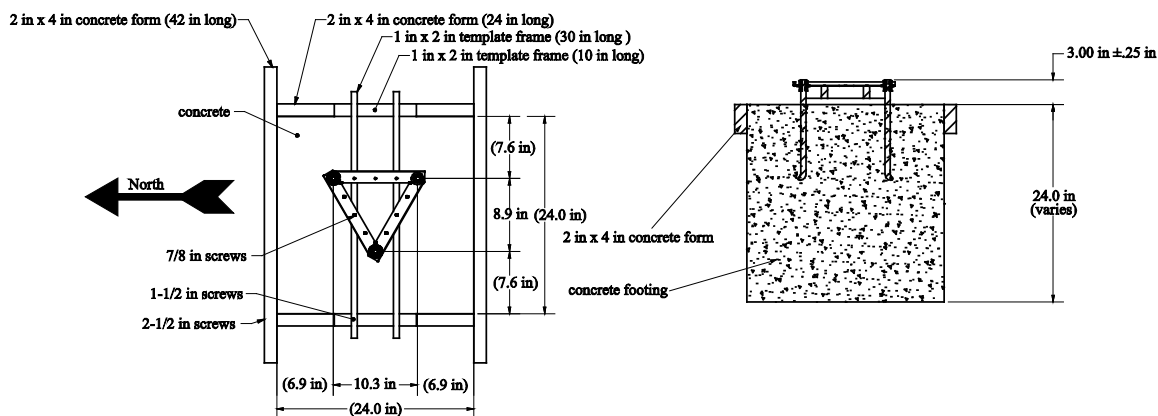

FIGURE 7-3. Positioning the J-bolt in concrete.
3. Construct a concrete form shown in FIGURE 7-3 out of 2 inch x 4 inch lumber 24 inch square (inside dimensions). Construct the 1 inch x 2 inch template frame and set it aside. Center the form over the hole and drive a stake centered along the outside edge of each side. Level the form by driving nails through the stakes and into the form while holding the form level.
4. Position the J-bolt template as shown in FIGURE 7-3. The top of each bolt will be 3.00 inch \pm 0.25 inch above the level of the form. Level the tops of the J-bolts in all directions using a small level and secure the J-bolt template to the template frame with 7/8 inch screws where holes in the template overlap the wooden frame.
5. Fill the hole and form with concrete. Screed the concrete level with the top of the form as shown in FIGURE 7-3. Smooth the concrete around the three J-bolts and allow the concrete to harden.